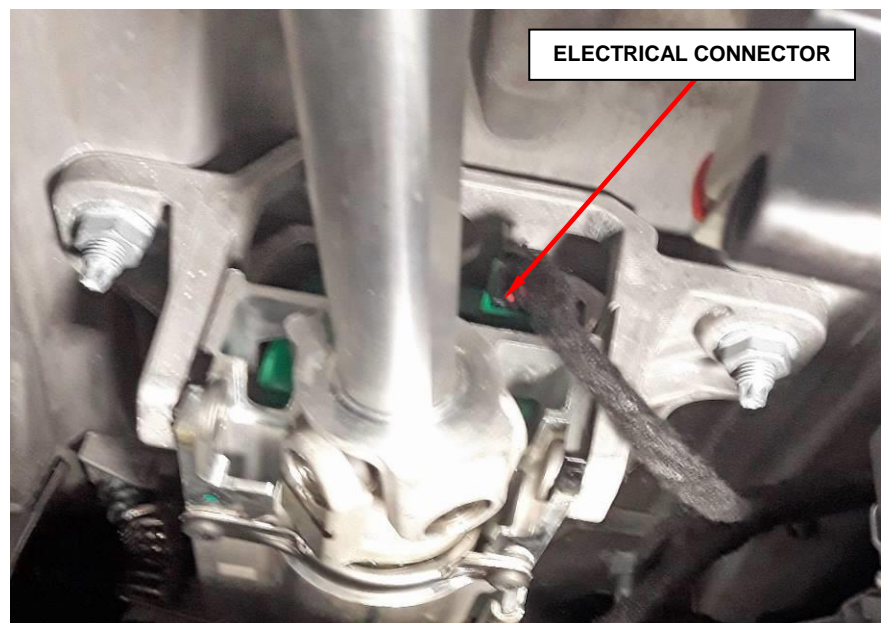

Figure 8 – Electronic Steering Lock Module
14. Disconnect the electrical connector from the electronic steering lock module (Figure 8).
16. Reconnect the electrical connector to the electronic steering lock module (Figure 8).